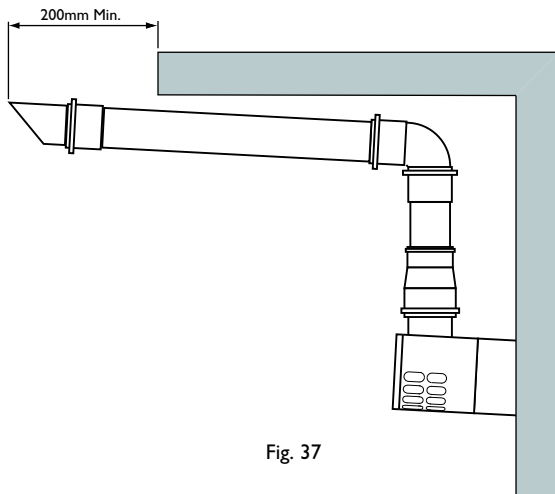

Fig. 37
22. When the plume outlet is positioned under a balcony or other projection (Fig. 37) it must protrude at least 200mm (it is not necessary to extend it further than this).